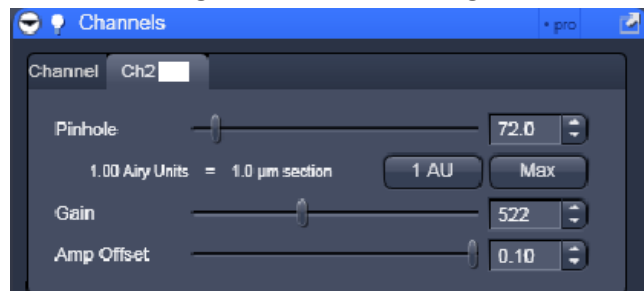

**Fig. 4: Sample Light Path**
1. In the LSM panel, choose the appropriate light path and filters. E.g.: 488 excitation, NT 80/20, BP 465-510IR and a low laser power of around 0.2% (See Fig. 4)